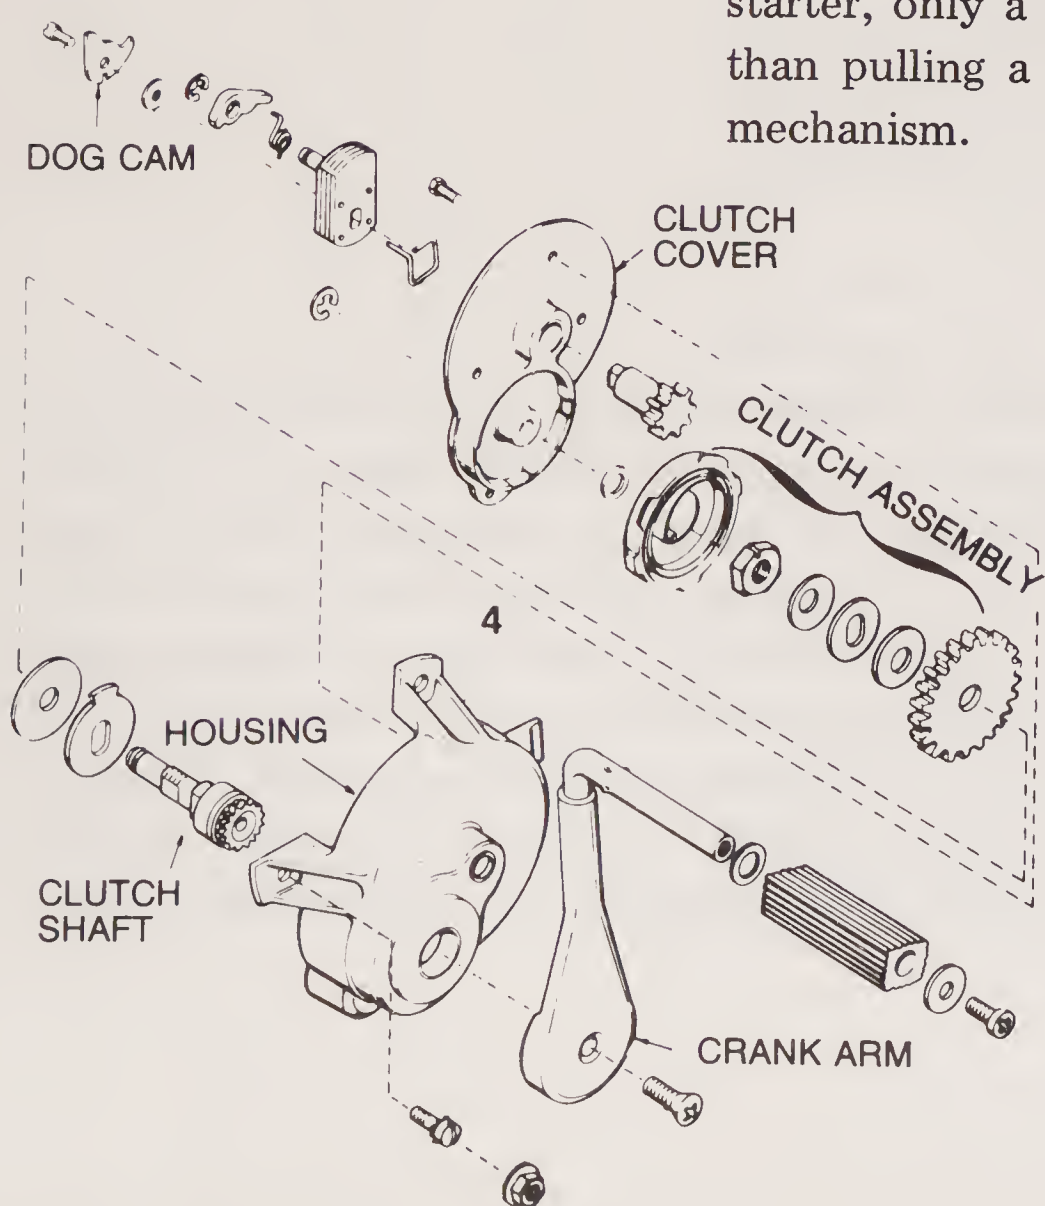

FIGURE 12-3
A kick starter may be found on a few mopeds or minibikes. Figure 12-3 is a disassembled view of a typical kick starter. A crank and ratchet assembly operates in much the same manner as the recoil starter, only a crank with a pedal is pushed to turn the engine rather than pulling a rope. A recoil spring is used to rewind the starting mechanism.
3. To service the *kick starter*, remove the crank arm and housing. When removing the housing, hold the dog cam in such a manner that the spring tension is not released. After the housing is removed, gradually let the dog cam turn and release. Figure 12-3 shows a disassembled kick starter. When assembling one, hold the cover with the gear assembly installed and wind the dog cam assembly 2 or 3 turns to apply tension on the spring. Guide the housing into position with tension on the dog cam.